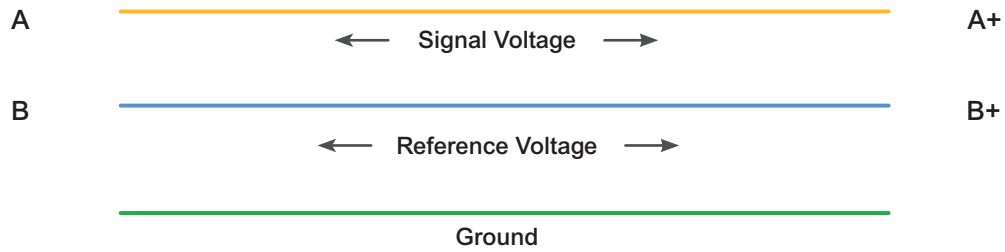

Figure 1: Half-Duplex
- **Half-Duplex** configurations use a single wire pair, which requires that data be transmitted in only one direction at a time. Half-duplex circuits use one twisted pair of wires, shown in Figure 1.